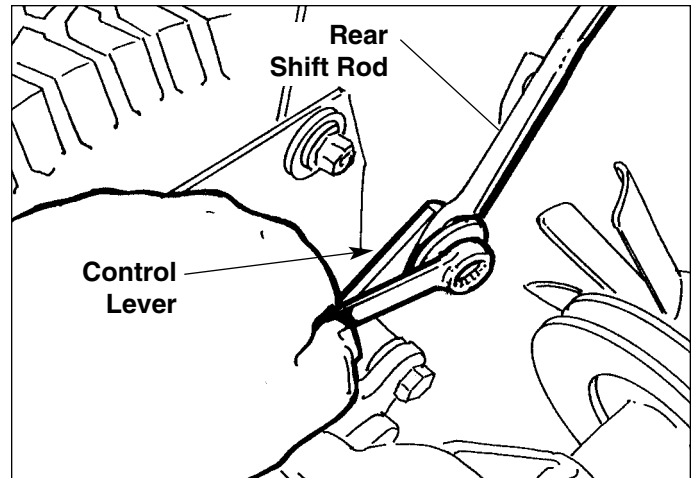

Figure C-19. Rear Shift Rod/Transmission Assembly
3. See Figure C-19. Note the position of the belt stop relative to the v-pulley, and then loosen the lock nut that secures the v-pulley to the idler. Slide the drive belt out of the gap between the pulley and belt stop.